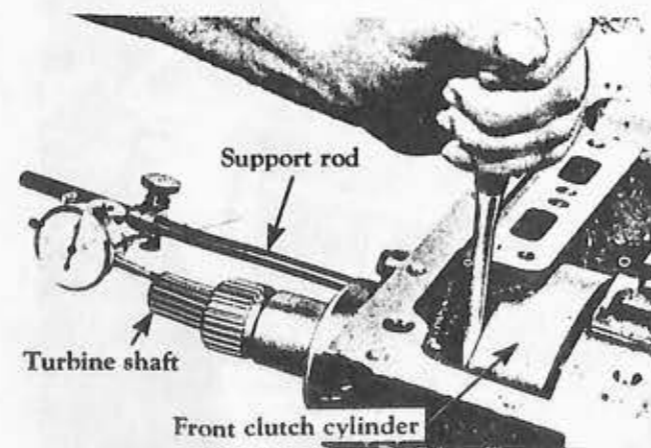

Fig. 36
2. Pry the front clutch cylinder to the rear of the transmission with a large screwdriver (Fig. 36). Set the dial indicator to zero while maintaining a slight pressure on the screwdriver.